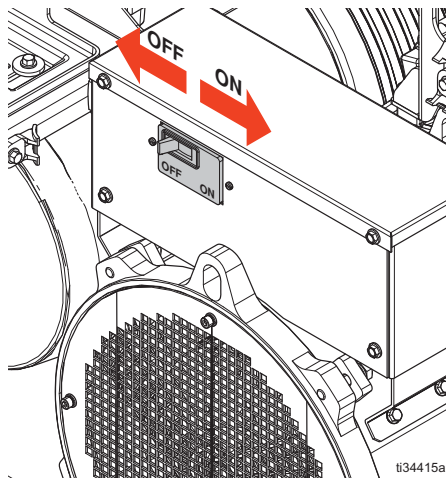

FIG. 22: 90 A Circuit Breaker in OFF Position
6. Turn the main 90 A circuit breaker on the alternator to ON. See FIG. 22.